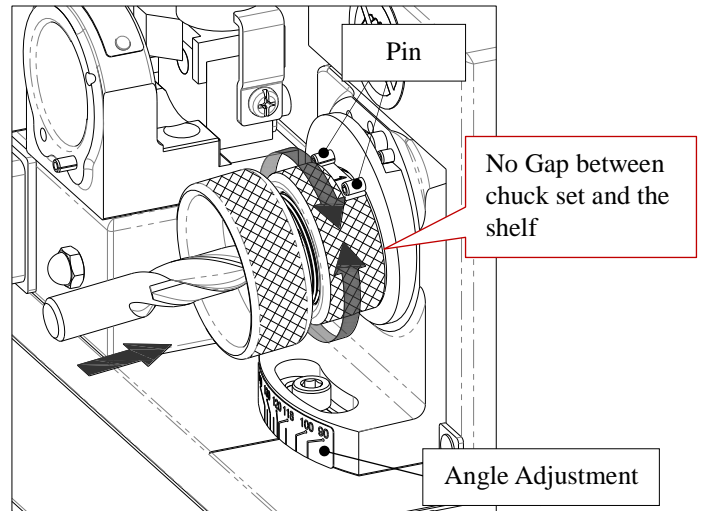

Fig. 7-1
1. Cutting Lip Grinding (Fig. 7-1)
- ① Put the chuck set into the grinding shelf and connected them closely.
- ② The slot of the fixed clamping nut must be fitted with the two pins on the grinding shelf.
- ③ Grind the drill by moving left and right until the noise stops.
- ④ Take out the chuck set, turn the chuck set to the other side and grind the drill by the same way.